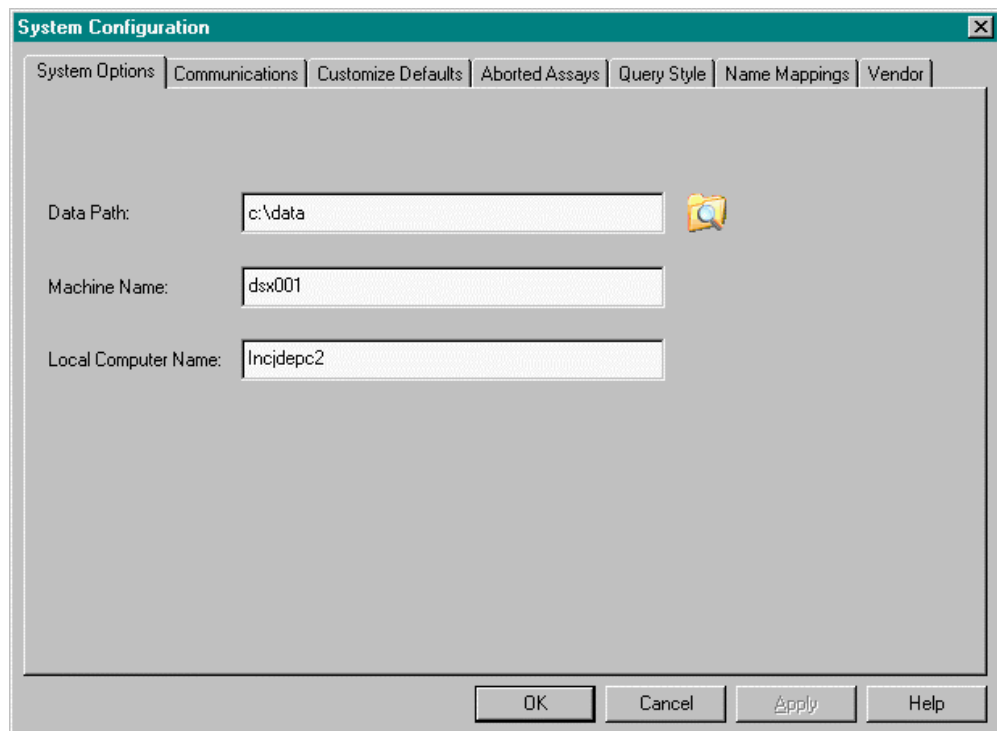

Figure 12 System Configuration Dialog Box
1. Select **Configuration** from the **Systems** menu. The System Configuration dialog box is displayed (Figure 12).